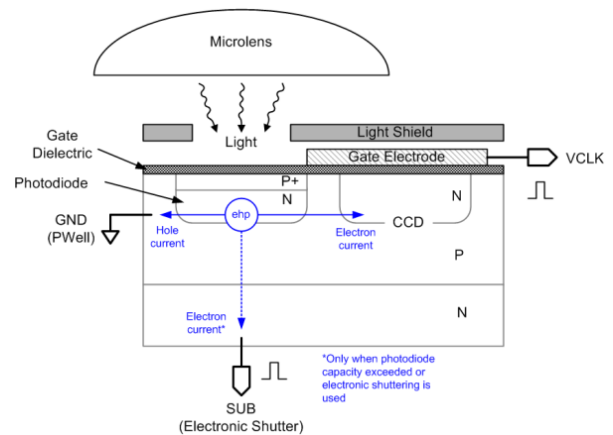

Figure 1. Interline CCD Structure and Operation
While Q_p is on, the gate dielectric (see Figure 1) will experience an electric field (E) related to the SUB and VCLK voltages and the gate dielectric thickness (t_{OX}) as shown in Equation 1.